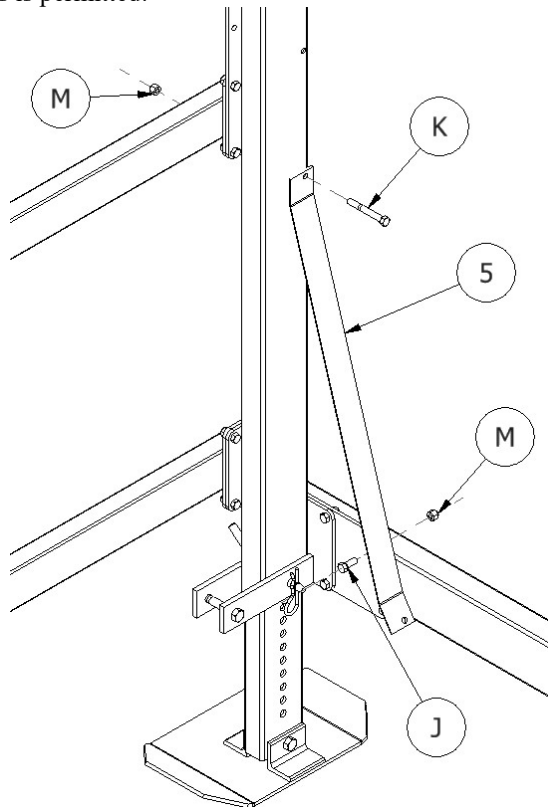

Figure 3-7.
1. Position a lower diagonal brace on the inside of vertical leg “B” as shown in Figure 3-7. Loosely fasten with hardware shown.